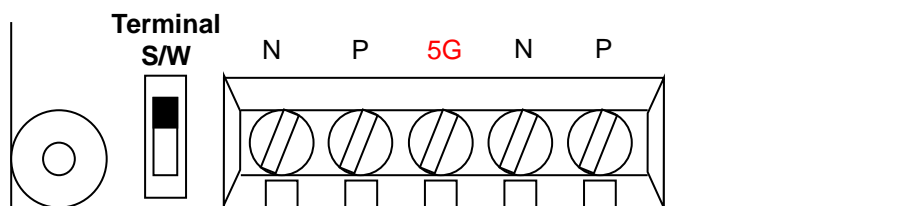

Figure 2. Communication Terminal Block
⑦ Turn Off the inverter power for the connection of converter after option board installation and parameter setting.
⑧ In case of option board used on terminal, terminal switch is turned On according to Figure 2.